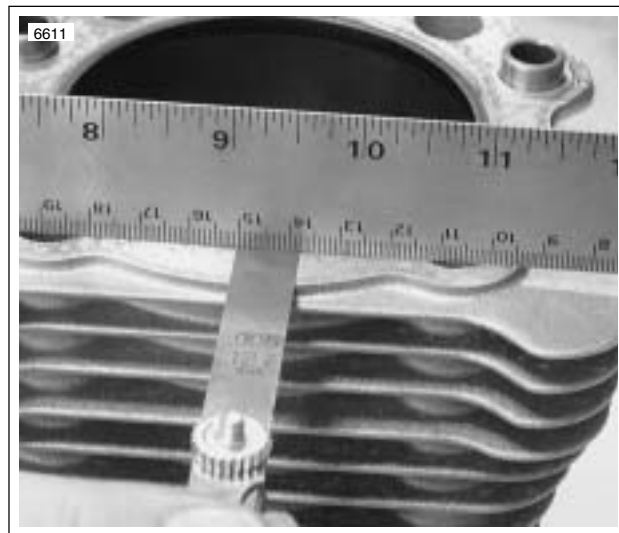

Figure 3-73. Checking Gasket Surfaces
1. See Figure 3-73. Check cylinder head gasket surface for flatness.